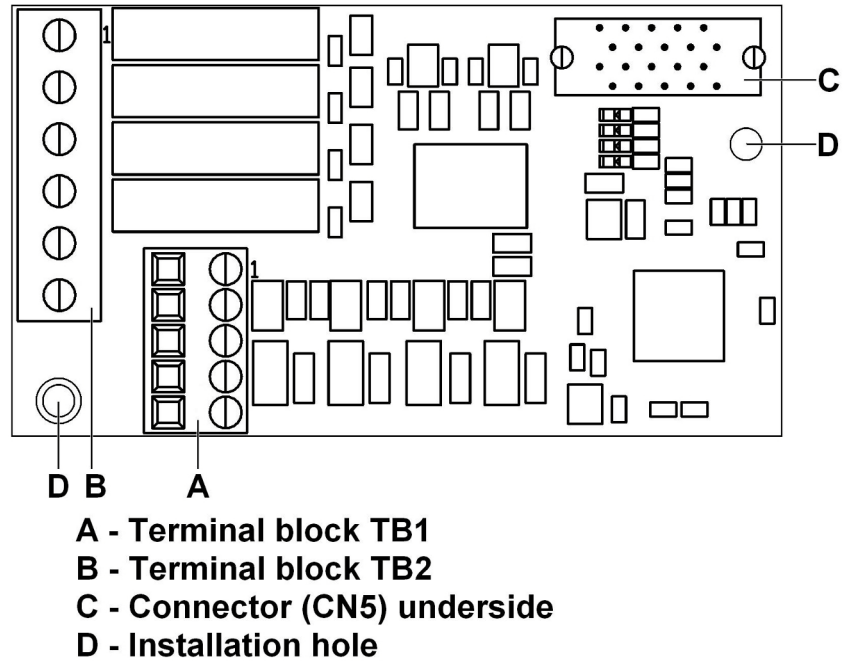

Figure 1: Digital Input/Output Option
- Verify receipt of the correct model by checking the model number printed on the option nameplate (refer to Figure 1 on page 7 for more information).